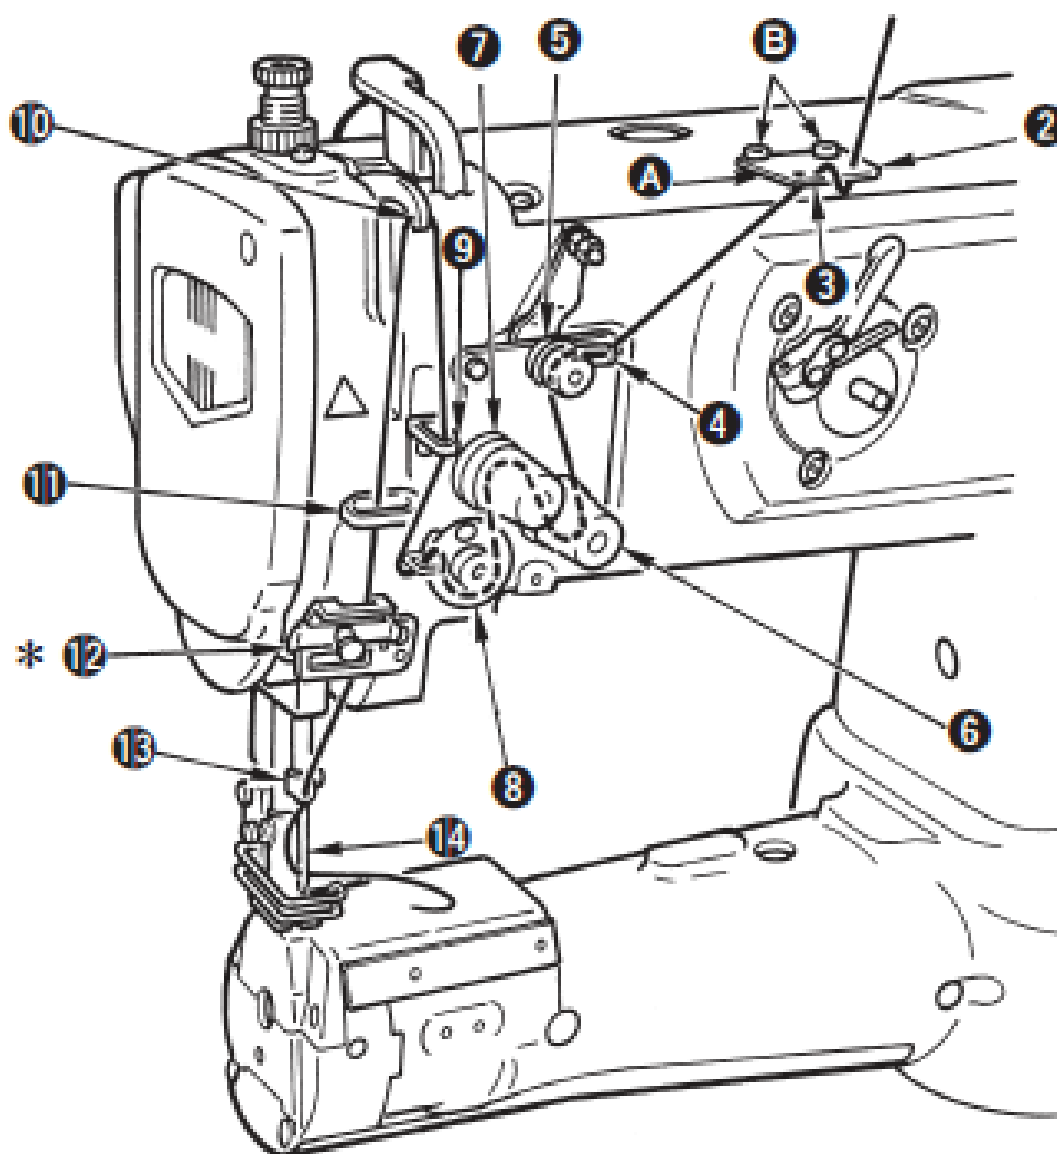

Figure 18
6. Ensure the thread follows the path provided in Fig 18. Pay close attention to the thread guide (Fig 18, Item 13) that is just above the needle. This is commonly overlooked and can cause errors in sewing if not threaded.